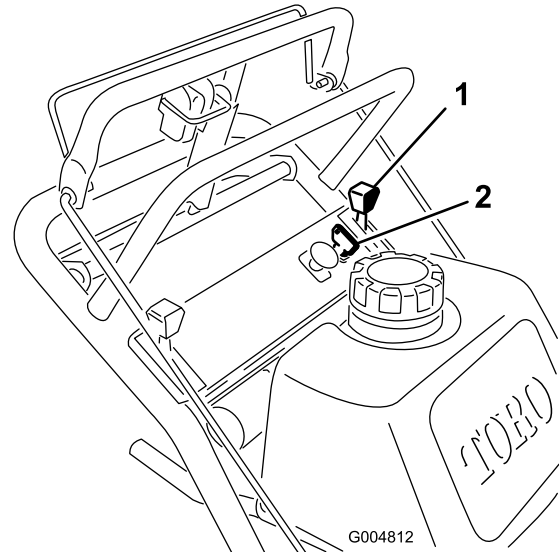

Figure 8
1. Move the throttle lever to the Slow position (Figure 8).
3. Turn the ignition key to the Off position (Figure 8).